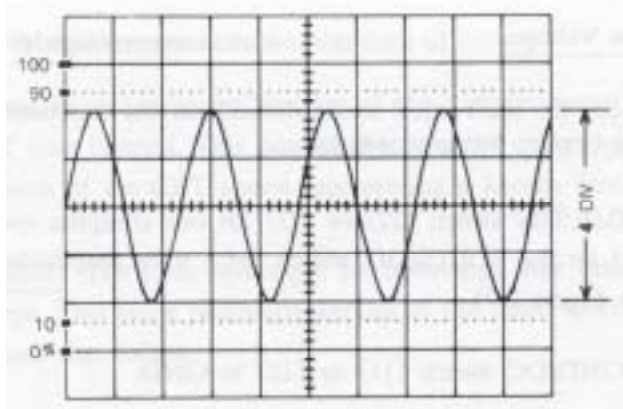

FIGURE 2-6. PEAK-TO-PEAK VOLTAGE MEASUREMENT
2. Adjust the TIME/DIV switch (22) or (23) for two or three cycles of waveform, and set the VOLTS/DIV switch for the largest-possible totally-on-screen display.
3. Use the appropriate Vertical POSITION control (17) or (18) to position the negative signal peaks on the nearest horizontal graticule line below the signal peaks, per Figure 2-6.
4. Use the Horizontal POSITION control (26) to position one of the positive peaks on the central vertical graticule line. This line has additional calibration marks equal to 0.2 major division each.
5. Count the number of division from the graticule line touching the negative signal peaks to the intersection of the positive signal peak with the central vertical graticule line. Multiply this number by the VOLTS/DIV switch setting to get the peak-to-peak voltage of the waveform. For example, if the VOLTS/DIV switch were set to 2V, the waveform shown in Figure 2-6 would be 8.0V_{p-p} (4.0 div X 2V).